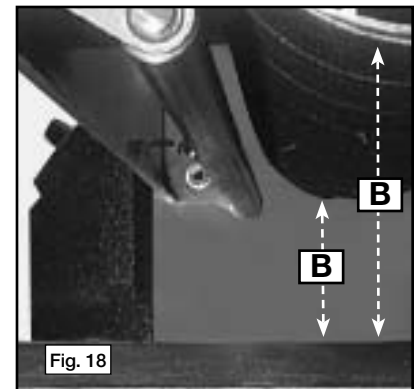

Fig. 18
NOTE: The table was set parallel to the drum at the factory. The distance (B) Fig. 18 should be the same front to back over the entire width of the feed belt. Measure the board thickness at several places along the length and width to be sure.